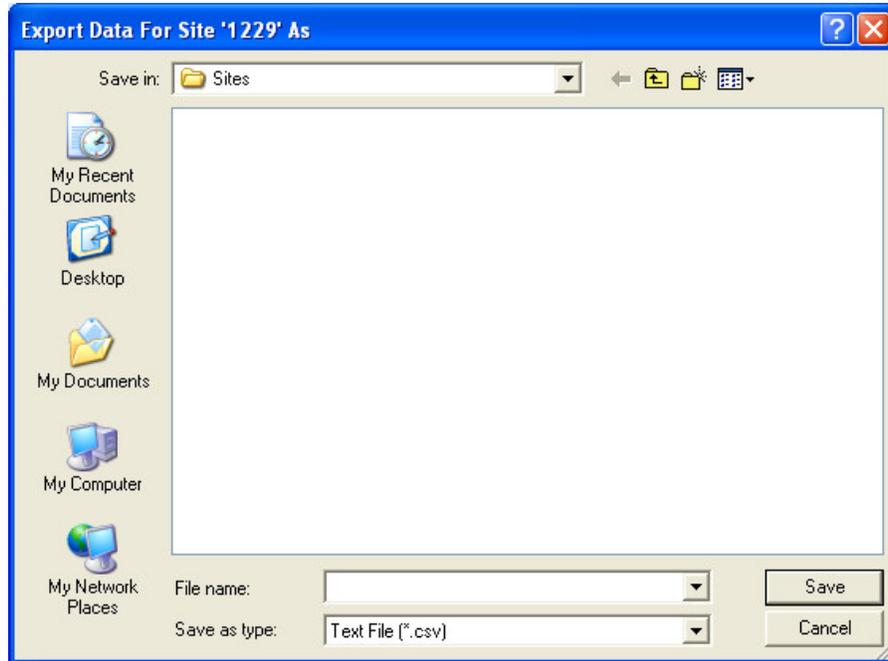

Figure 4. Selecting filename for exported data
5. After choosing the inputs, you must then enter the name of the file that will be used to store the exported data. You will have to enter a separate filename for each of the sites you chose in step 2. Each of the sites will be processed individually, always with a prompt for a CSV file name (see Figure 4). If you do not add an extension to the name, the default of 'CSV' will be added automatically.